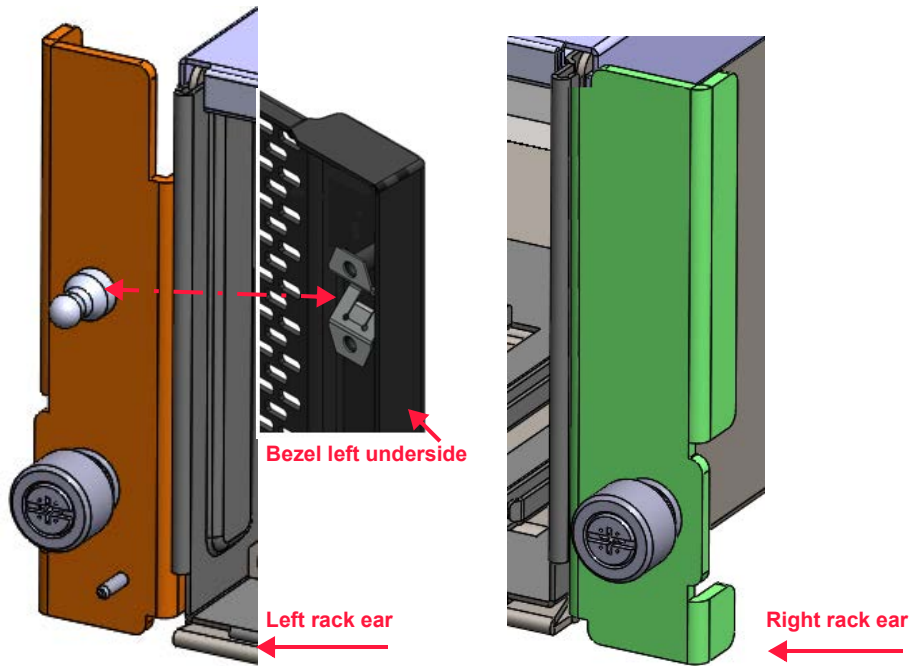

Figure 8.30 Bezel installation
2. Slide the two retention tabs on the underside of the right bezel into the slots in the top of the right rack ear identified in Figure 8.30 on page 118.